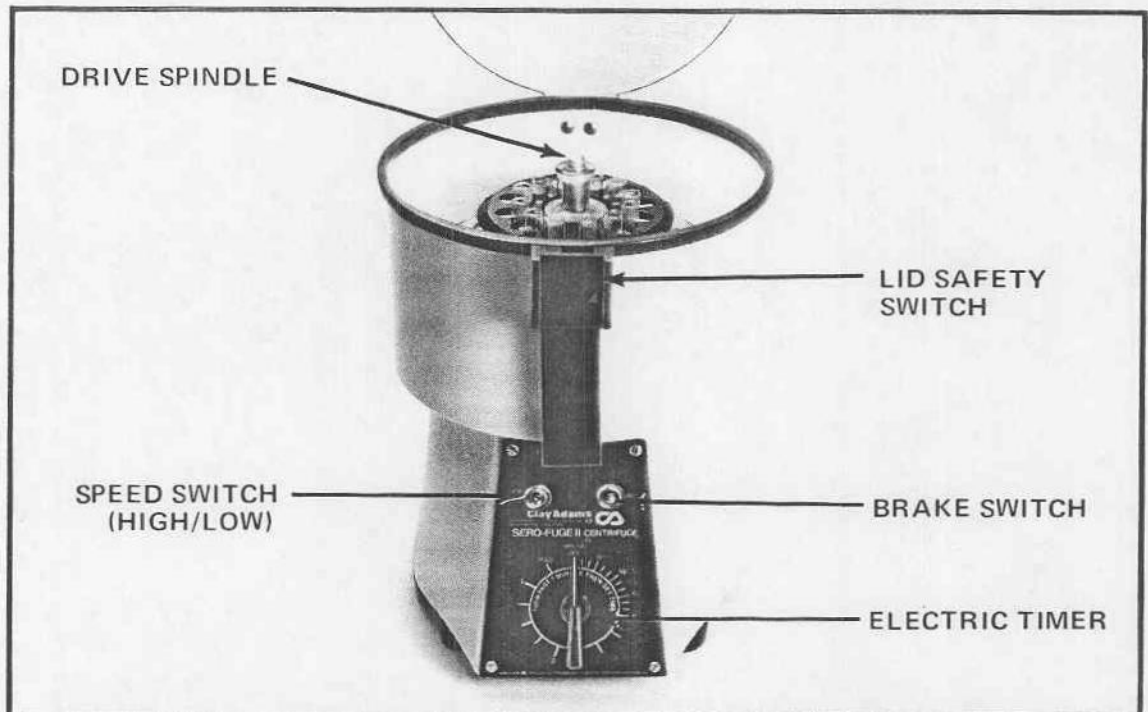

Figure 7. Controls on SERO-FUGE II Centrifuge (Model 0541).
2. SERO-FUGE II Centrifuge (Model 0541)—Figure 7